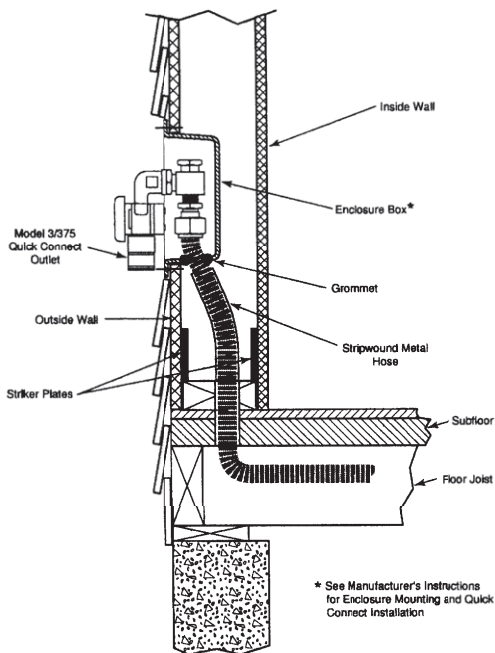

Figure: 4-37
1. Movable grills shall be connected using an approved outdoor appliance connector which shall be attached to the flexible piping system at either a termination mount fitting, a transition to a steel nipple, or a quick connect device such as the M. B. Sturgis Model 3/375 shown in Figure: 4-37-The quick-connect outlet shall be installed in accordance with manufacturer’s instructions.